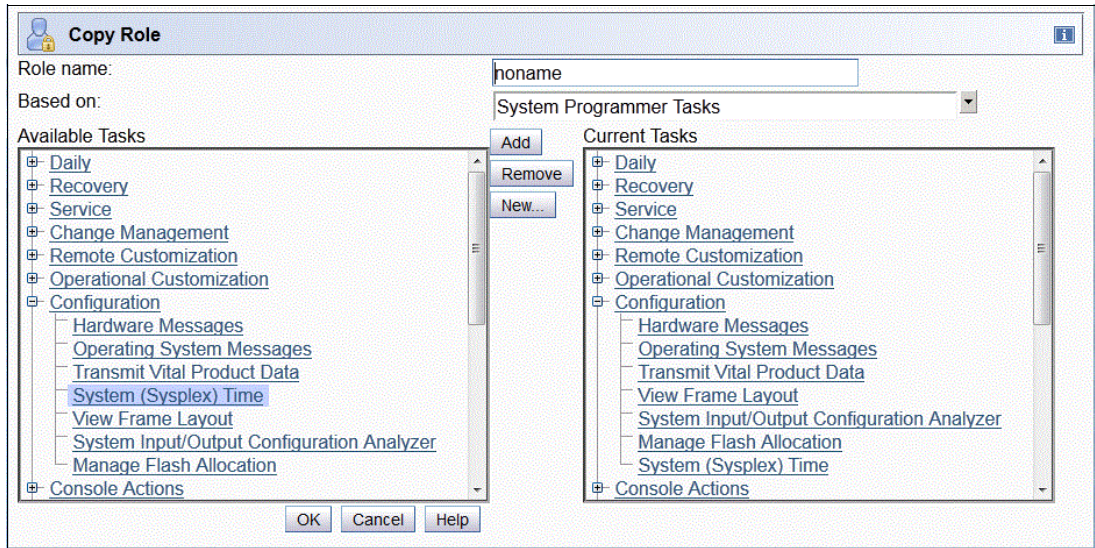

Figure 3-30 HMC User Role Modification panel
1. Create new user task role by copying an existing sysprog role as a template. Select **System (SYSPLEX) Time** on the right-side panel, under Current Tasks, and click **Remove**. Then, select **System (SYSPLEX) Time** on the left-side panel under Available Tasks and click **Add**. See Figure 3-30 on page 79.